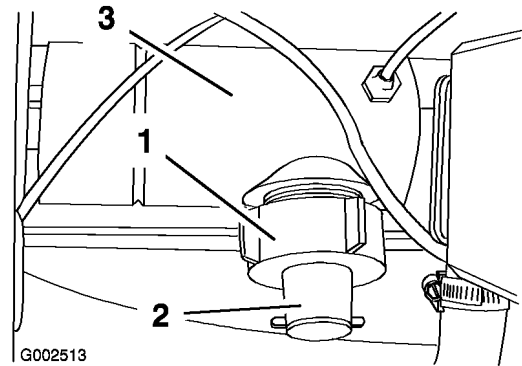

Figure 48
- Remove the retaining cap from the flowmeter body (Figure 48).